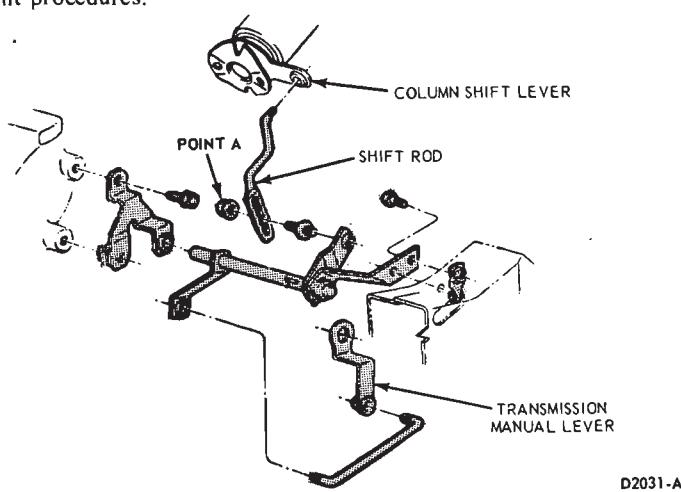

FIG. 4—Manual Linkage—Column Shift—Ford-Mercury-Meteor
2. Loosen the shift rod adjusting nut at point A (Fig. 4, 5, 6 or 7).